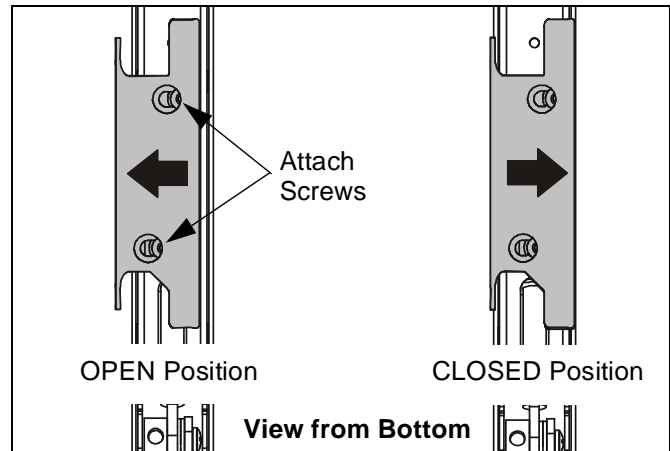

Figure 9
- Open the cable management bracket on the height-adjust assembly (A) by sliding it towards the edge of the arm. (See Figure 9)
- Close cable management bracket by sliding it back towards the centerline of the arm (See Figure 9).